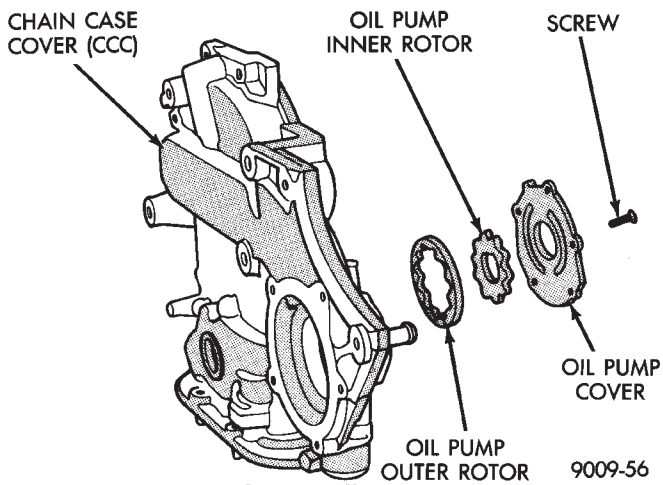
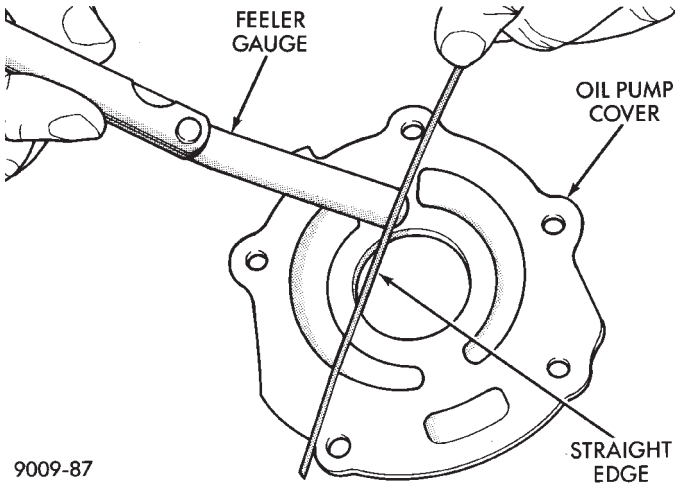

Fig. 77 Oil Pump
Fig. 78 Checking Oil Pump Cover Flatness
(1) Remove oil pump cover screws, and lift off cover (Fig. 77).
(2) Remove pump rotors.
(3) Clean all parts thoroughly. Mating surface of the chain case cover should be smooth. Replace pump cover if scratched or grooved.
(4) Lay a straightedge across the pump cover surface (Fig. 78). If a 0.076 mm (0.003 in.) feeler gauge can be inserted between cover and straight edge, cover should be replaced.